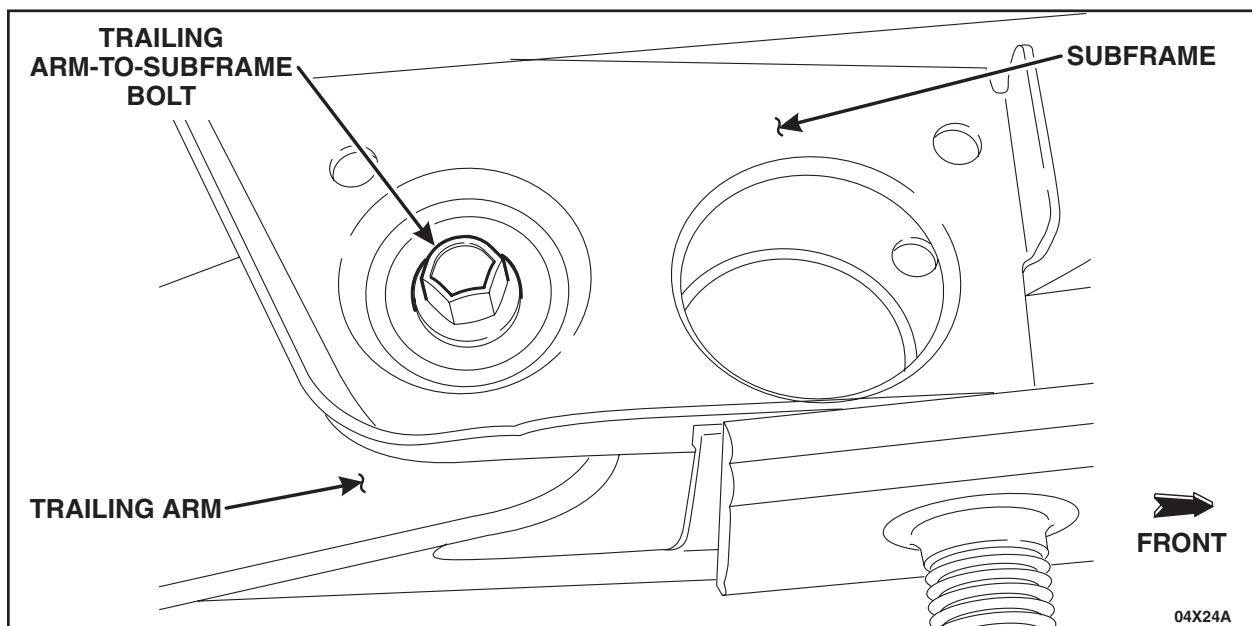

FIGURE 6
9. Remove the trailing arm-to-subframe bolts. See Figure 6.
13. Using a High Lift Transmission Jack 014-00942 or equivalent, raise the rear axle assembly in position and install the trailing arm-to-subframe bolts. See Figure 6.